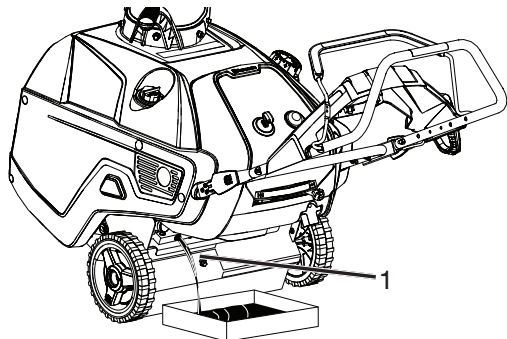

Figure 22
4. Place an oil drain pan under the oil drain plug and remove the oil drain plug. Tip the snowthrower backward and drain the used oil in the oil drain pan (Figure 22).